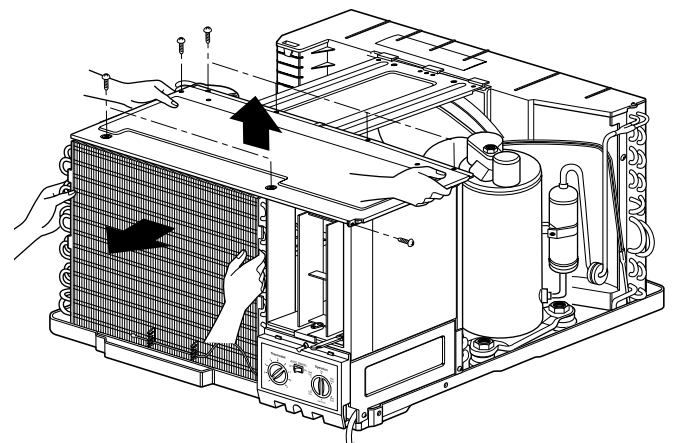

Figure 17
7. Re-install the components by referring to notes. (See Fig. 17)